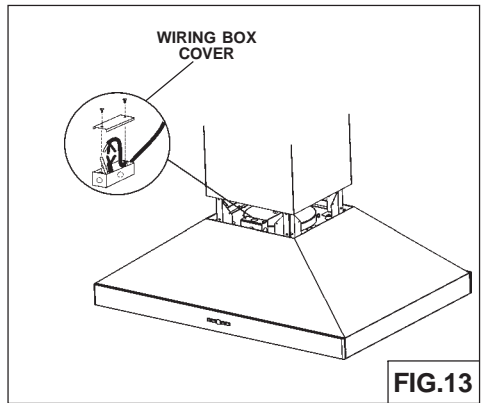

FIG.13
1. Remove the **wiring box cover**. Remove a knockout from the wiring box (Fig.13).